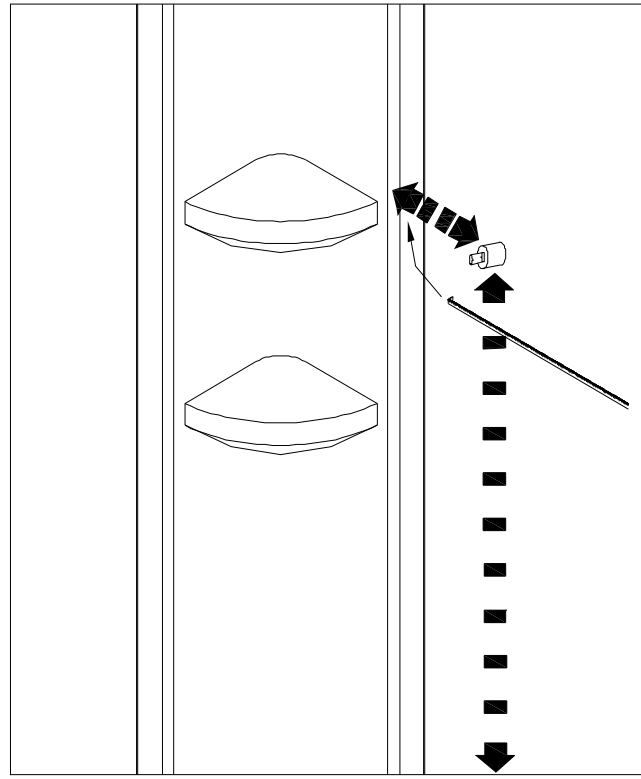
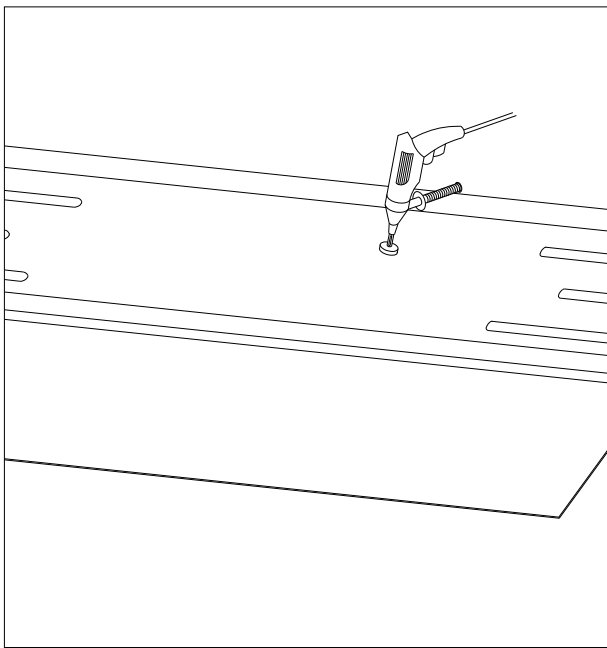

Fig 6
Fig 7
6. Carefully measure and drill the holes in the second side panel which will accommodate the shower head and mixing valves. Make sure that all plumbing fixtures protrude through the acrylic walls when it is put in position. See Fig 6 and Fig 7 for details.